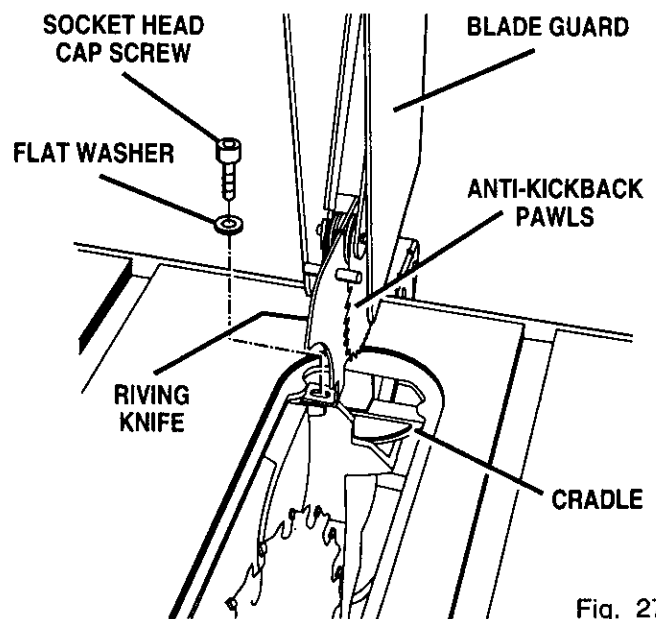

Fig. 27
- Insert the third socket head screw and a flat washer into the screw hole in cradle under the throat plate. Securely tighten with a 5 mm hex key. See Figure 27.